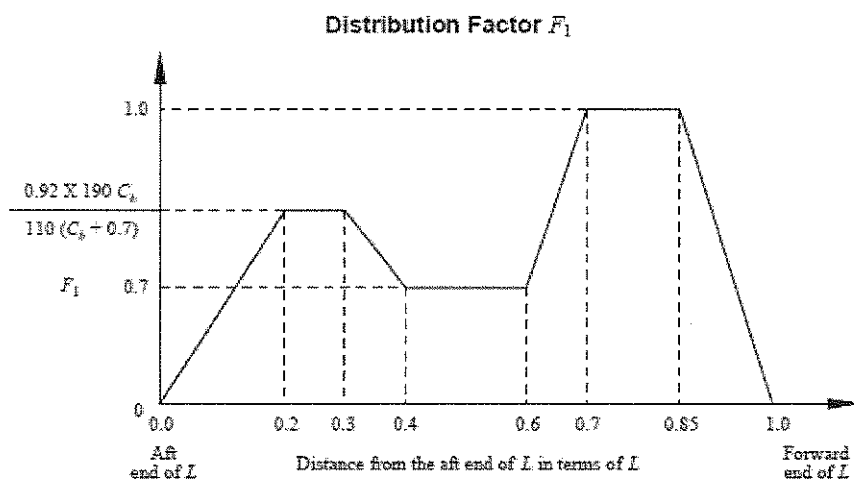

Figure 7
d) The positive shear force F_{wp} based on Part 3, Chapter 2, Section1, Paragraph 3.5.3, Steel Vessels 2015 of ABS Rules Book is given below and the envelopes of the maximum shearing forces Distribution Factor F_1 is given in Figure 7.